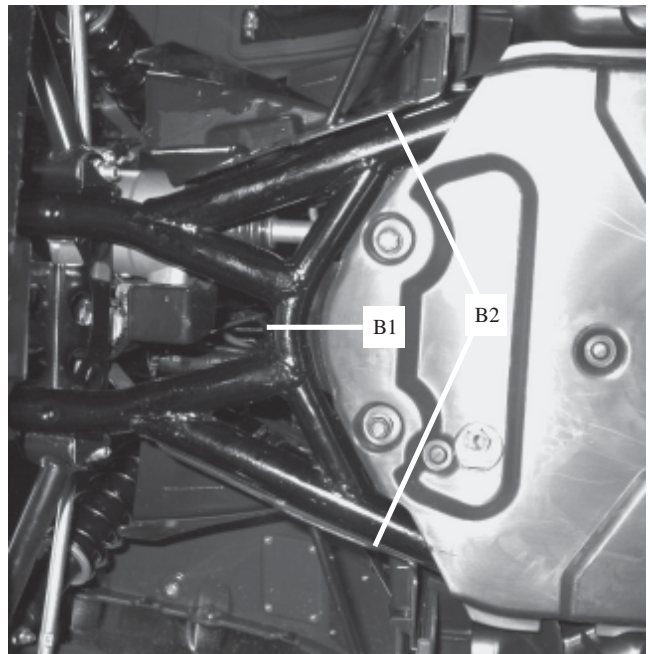

Figure 3
3. Place the u-bolts (B1 & B2) around the vehicle frame, Figure 3. The front of the skid plate must be pushed upward in order to slide the u-bolt (B1) around the frame member. Additional skid plate trimming may be necessary if there is contact with the side u-bolts (B2).